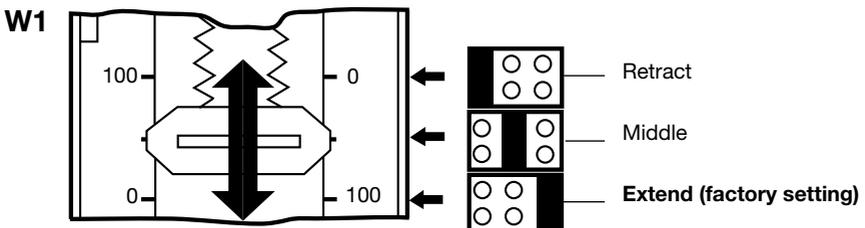

Fig. 27
4.2.1 Setting the W1 jumper switch (signal failure position, Figure 27)